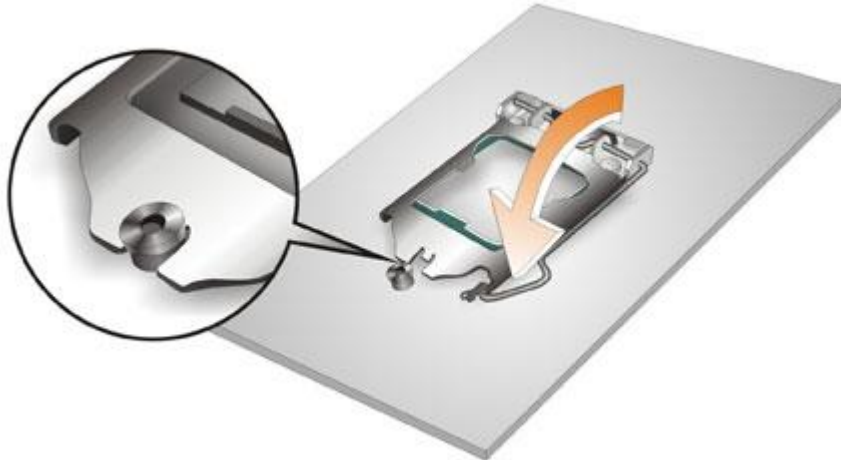

Figure 4-6: Close The Socket LGA1200
Step 8: Close the CPU socket. Close the load plate and pull the load lever back a little to have the load plate be able to secure to the knob. Engage the load lever by pushing it back to its original position (**Figure 4-6**). There will be some resistance, but will not require extreme pressure.